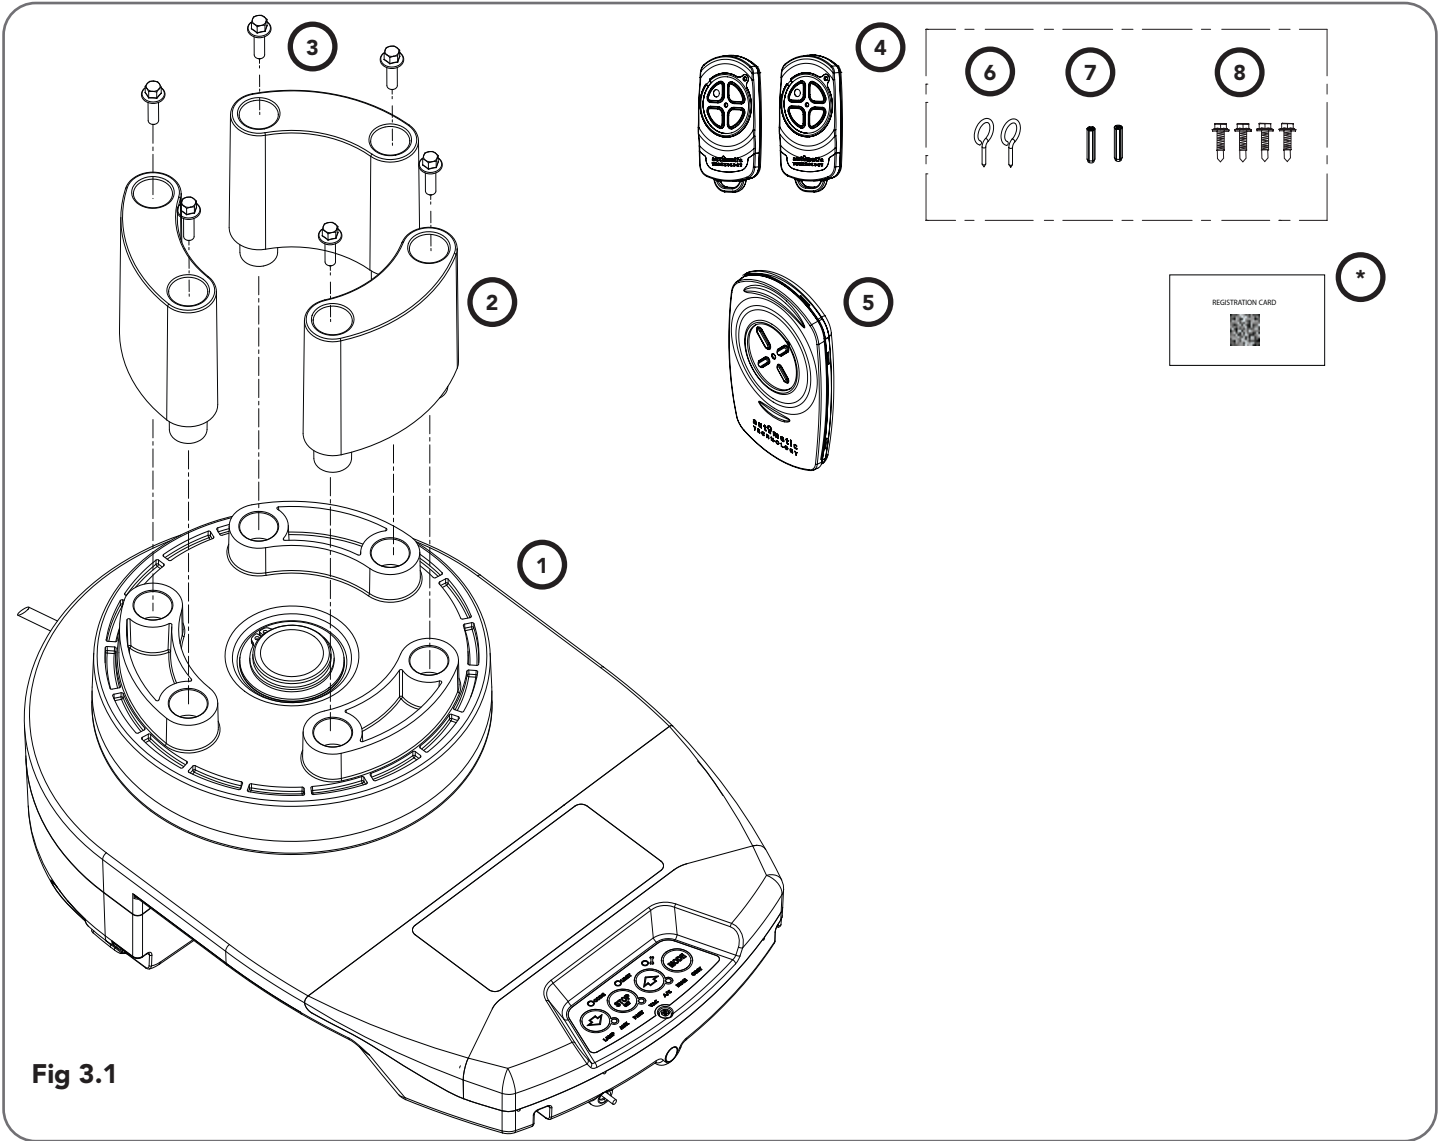

Fig 3.1
Attach and secure the three (3) forks (2) with the six (6) hex serration head screws (3) to the drive unit (1) (**Fig. 3.1**). All forks must be used and properly engaged into the drum of the door for the opener to work effectively.